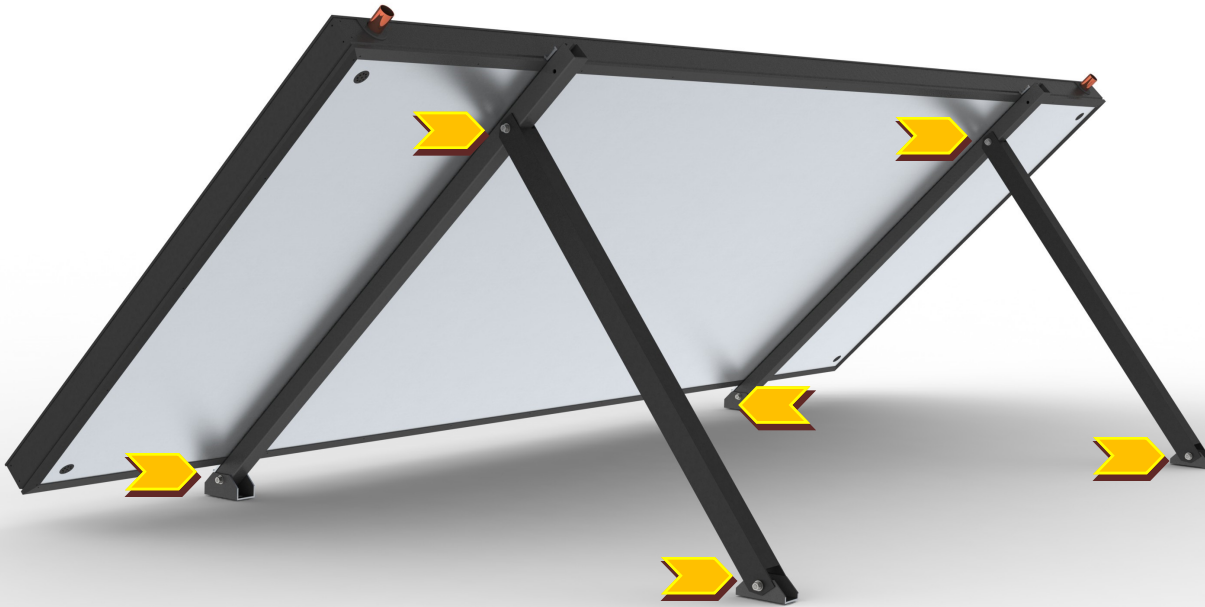

Figure 7
3. Torque all six (6) mounting hardware assemblies to 18 ft*lbs. As shown in *Figure 7*